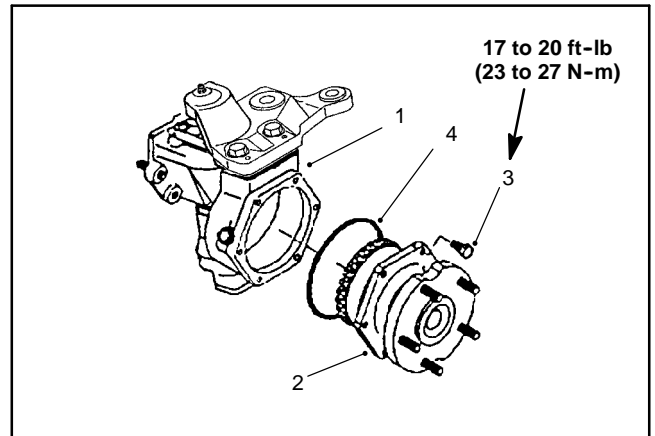

Figure 16
3. Remove the axle cover mounting screws. Remove the axle cover from the axle case as an assembly (Fig. 16).